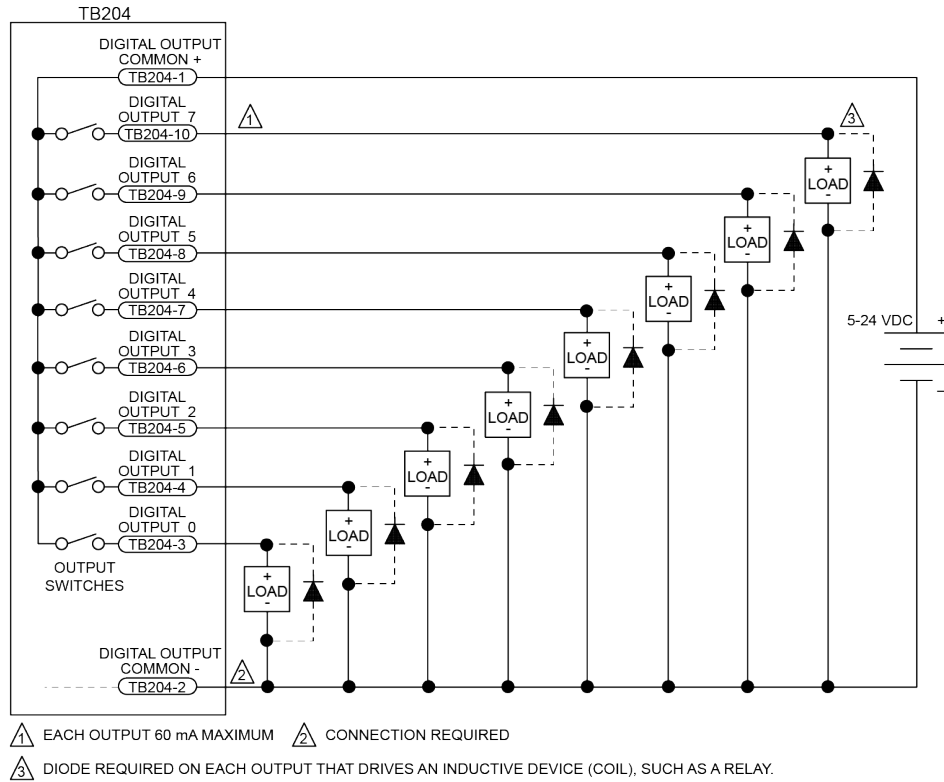
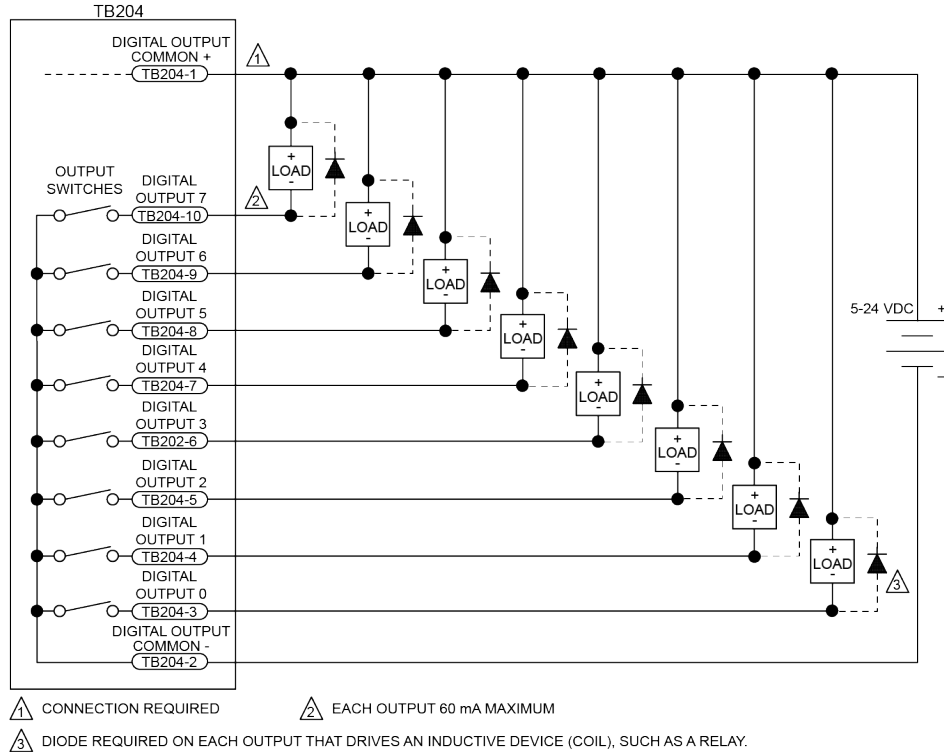

Figure 3-7: Digital Outputs Connected in Current Sourcing Mode
Figure 3-8: Digital Outputs Connected in Current Sinking Mode
The outputs are software-configurable and must be connected in either all sinking or all sourcing mode. Figure 3-7 and Figure 3-8 illustrate how to connect to an output in current sourcing and current sinking modes.
NOTE: Power supply connections must always be made to both the Output Common Plus (OP) and Output Common Minus (OM) pins as shown in Figure 3-7 and Figure 3-8.
Suppression diodes must be installed on outputs driving relays or other inductive devices. This protects the outputs from damage caused by inductive spikes. Suppressor diodes, such as the 1N914, can be installed on all outputs to provide protection. It is important that the diode be installed correctly (normally reversed biased). Refer to Figure 3-8 for an example of a current sinking output with diode suppression and Figure 3-7 for an example of a current sourcing output with diode suppression.